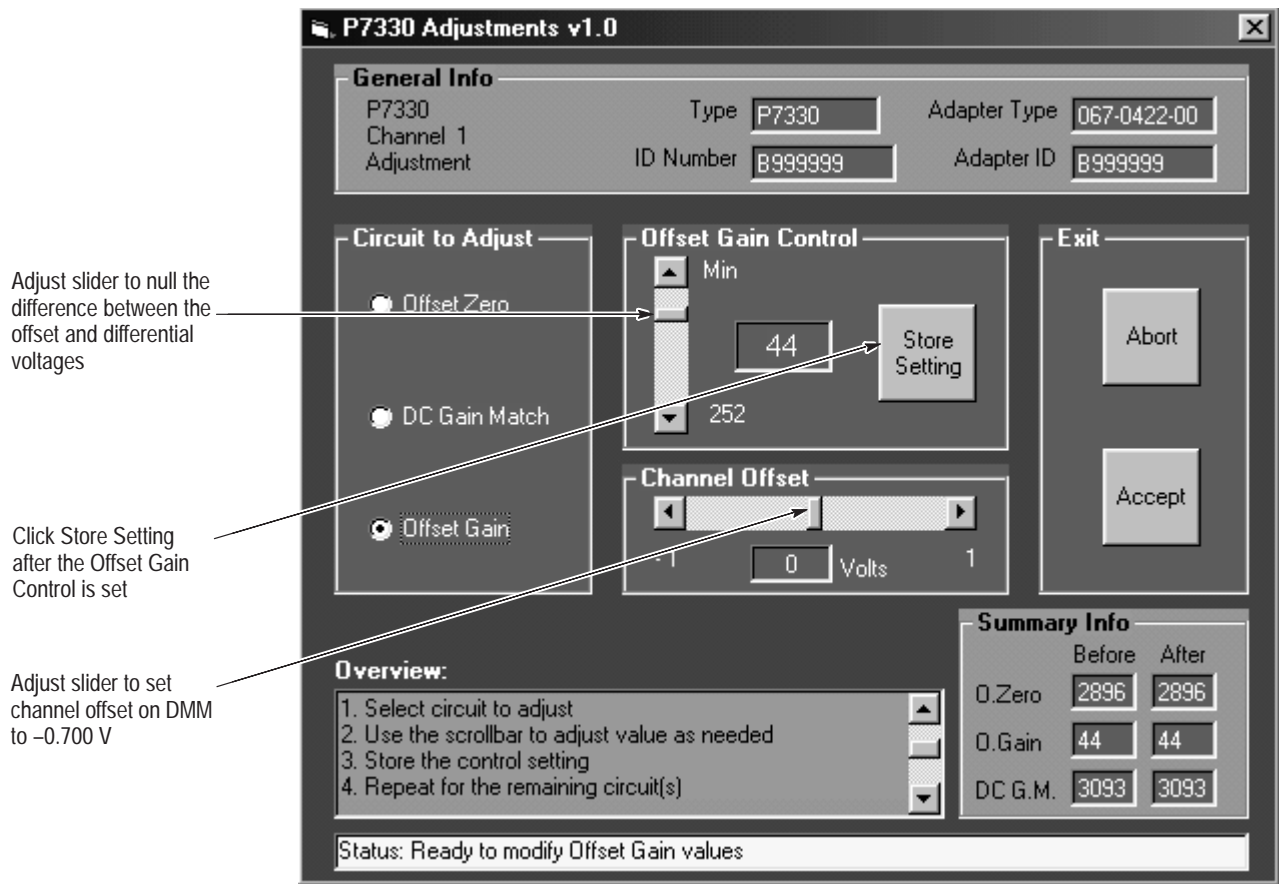

Figure 17: Offset Gain window
5. Click **OFFSET GAIN** in the application window. See Figure 17 on page 25.